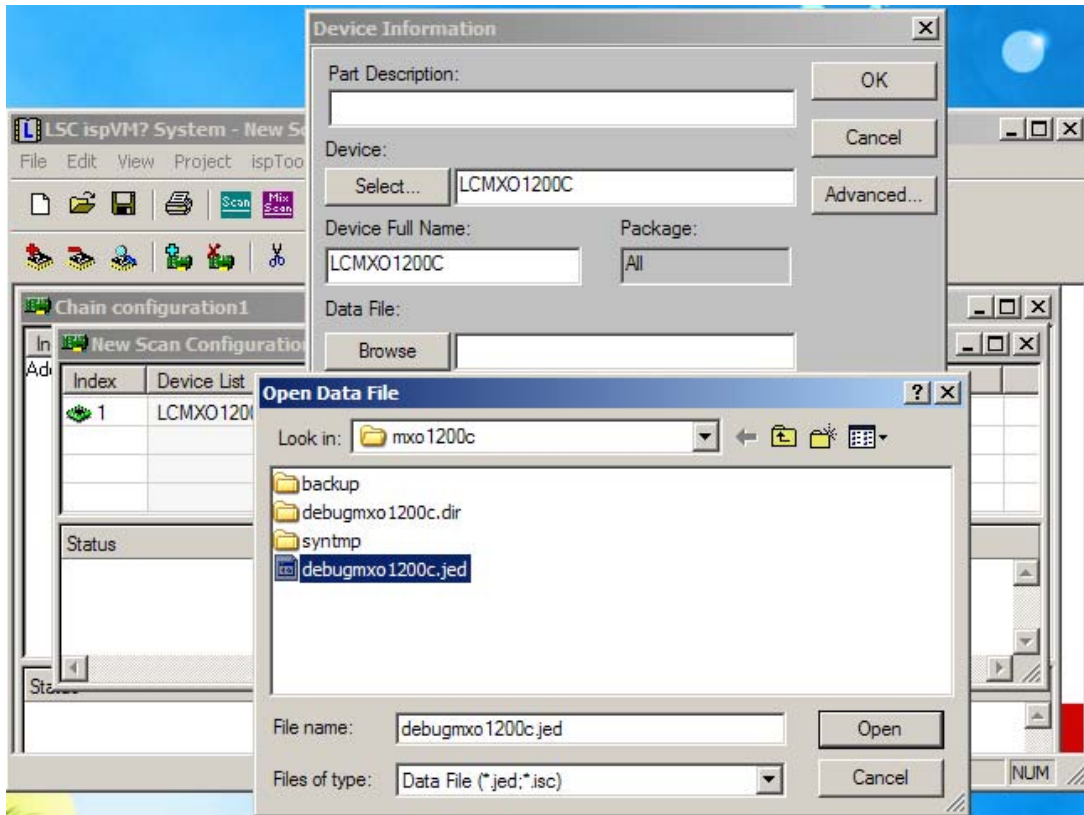

Figure 4-5 Selecting the CPLD Data File
8. Select the CPLD data file (Figure 4-5).